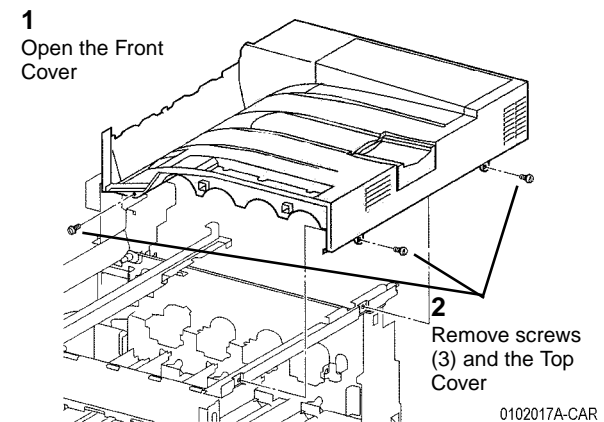

Figure 3 Removing Top Cover
8. Remove the Top Cover (Figure 3).
12. Remove the Top Cover (Figure 3).